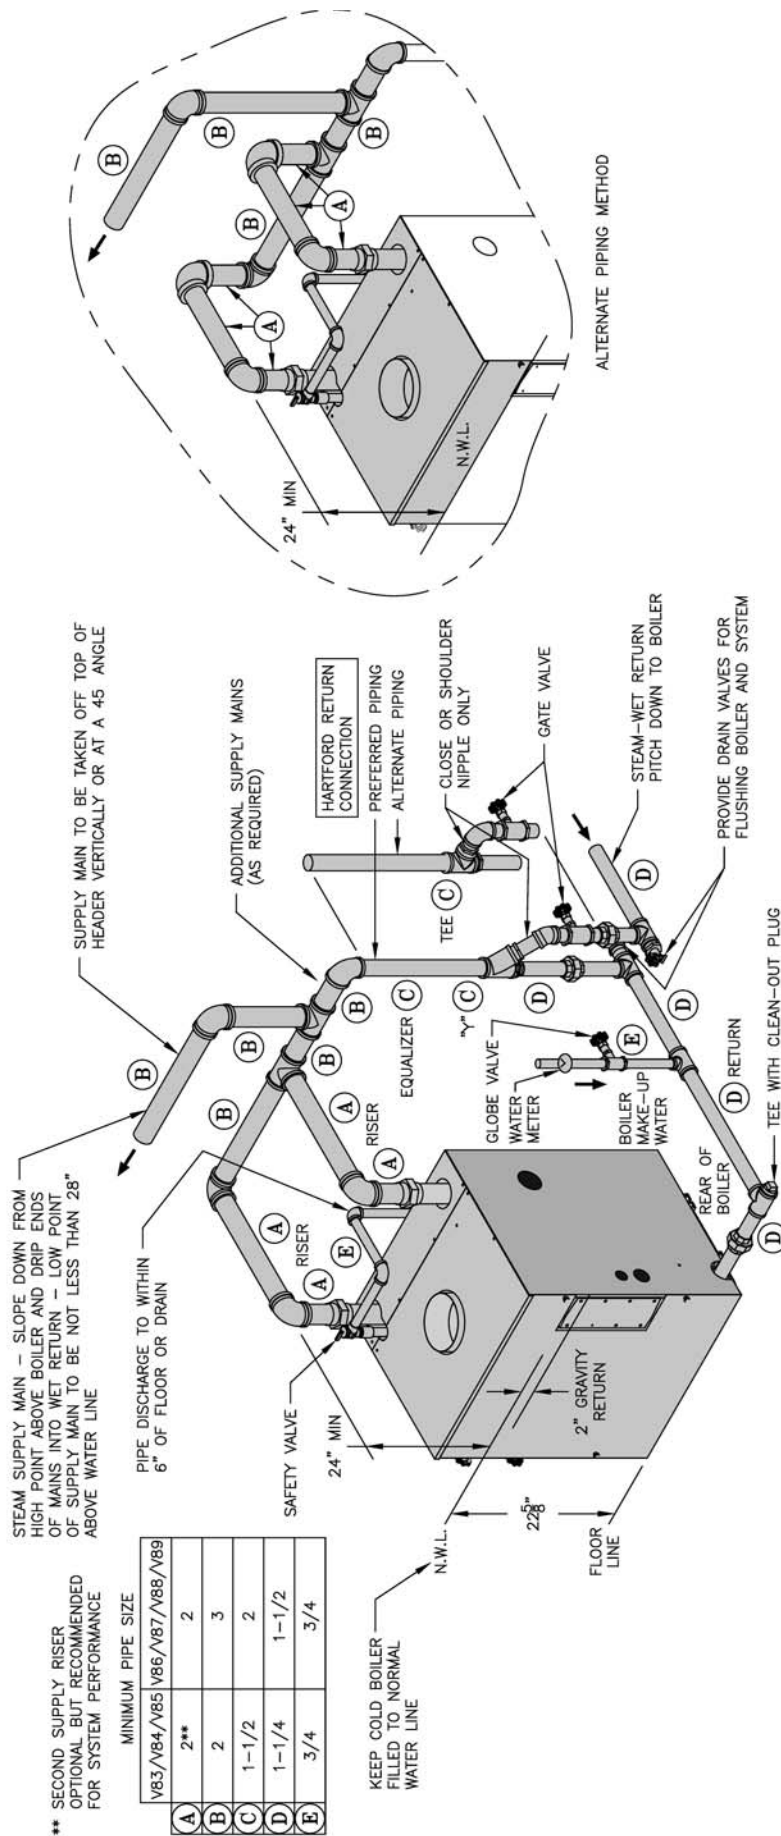

Figure 14: V83 Thru V89 Recommended Boiler Piping For Gravity Return Steam Boiler
B. CONNECT SYSTEM SUPPLY AND RETURN PIPING TO BOILER. See Figure 14 for piping details. Also consult I=B=R Installation and Piping Guides.